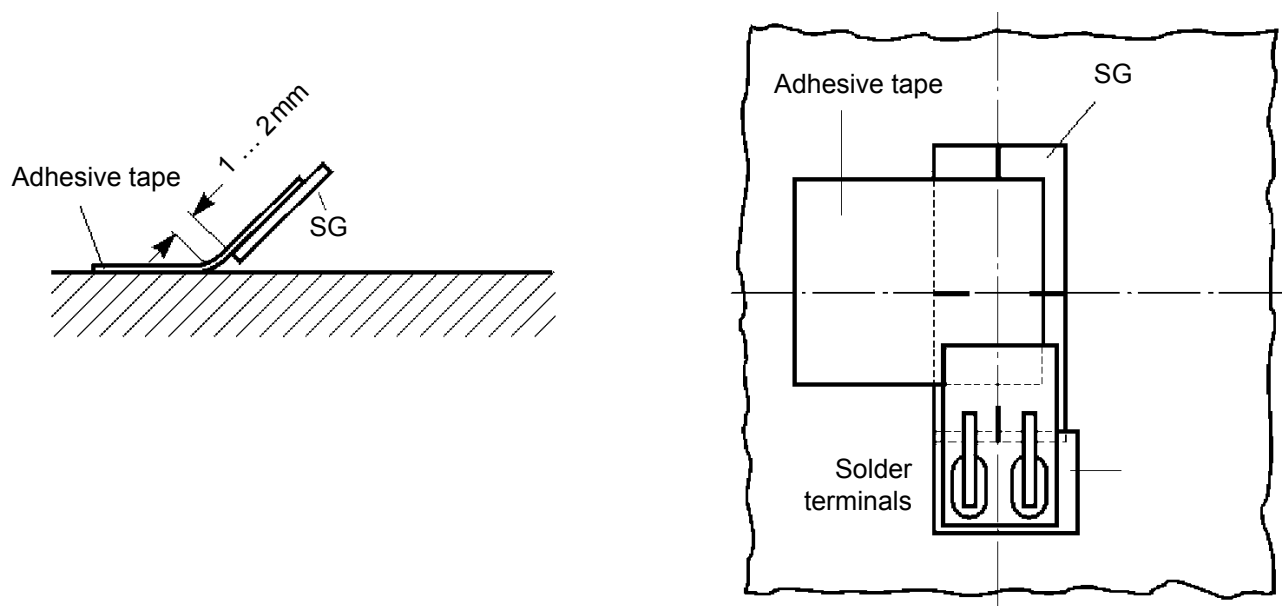

Fig. 2-7: Fixing the strain gage to the measurement object
- Align the SG on the measurement point prepared according to Section 2.4.2, Page 22 so that the axis markings on the SG are aligned with the position markings. Press on the adhesive tapes, see Fig. 2-7, so that a hinge-like connection is formed between the SG and measurement object.